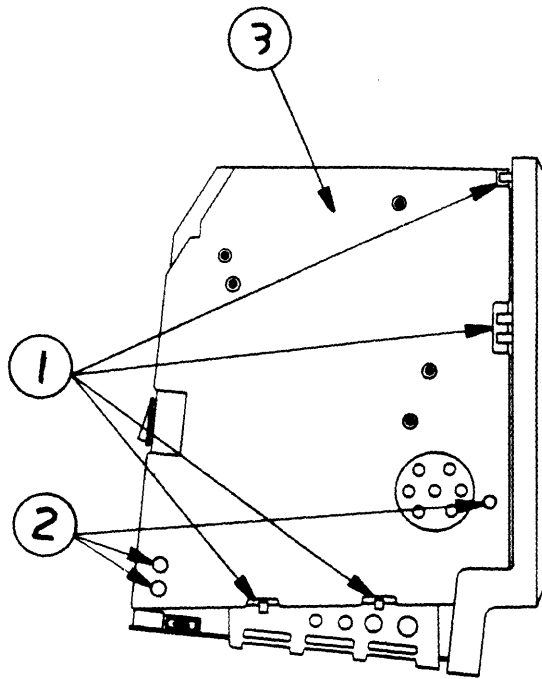

FIGURE 7
4. Slide the board into the slotted holders (Figure 7, #1) so that the three screw holes line up with the holes on the chassis (Figure 7, #2).
7. Replace the three screws and washers (Figure 7, #2). If replacement screws are needed, refer to Section 6, Additional Procedures.
8. Replace the insulating paper if it has been removed (Figure 7, #3).
Note: All 400K drive mechanisms are shipped in their original internal drive shields. To exchange an 800K drive mechanism, you must first remove the drive mechanism from its original internal drive shield and install it in the Apple-approved packaging-and-shipping fixture. You should also install the dummy packing disk. See Figure 7 in the Illustrated Parts List for additional information.